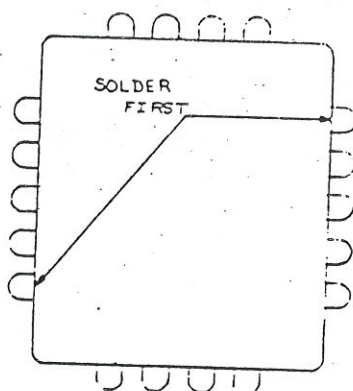

FIG. M-5
STEP 2. USING THE 600 DEGREE IRON, TOUCH THE IRON AGAINST ANY PAD, AS CLOSE AS POSSIBLE TO THE CHIP WITHOUT TOUCHING THE CHIP, AND APPLY SOME SOLDER. WAIT FOR THE SOLDER TO FLOW AND WICK UP UNDER THE CHIP. REPEAT THIS STEP ON THE PAD HALFWAY AROUND THE CHIP. THIS WILL HOLD THE CHIP IN PLACE WHILE YOU SOLDER THE REMAINING PADS. REFER TO FIGURE M-5.